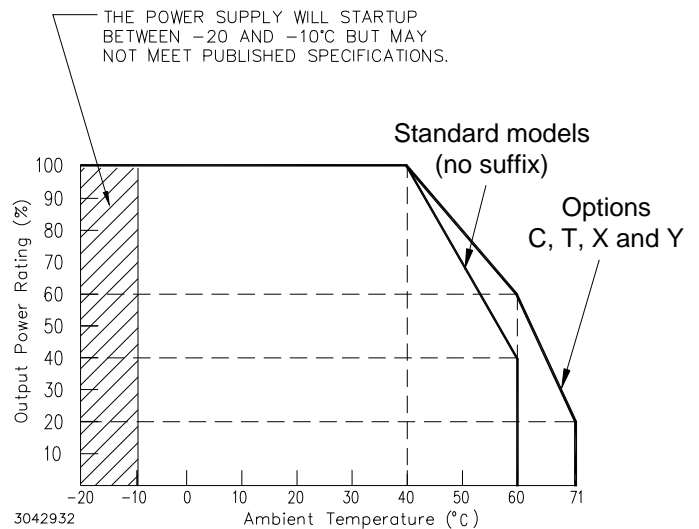

FIGURE 4. OUTPUT POWER RATING VS. AMBIENT TEMPERATURE
(1) Derates same as Output Power.
(2) Current Limit is rectangular. After the overload is removed, output is automatically restored.
(3) See power derating curve, Figure 4.
OPERATING TEMPERATURE: See Figure 4.)
- (1) Overvoltage (and overtemperature on 24V model) shuts down the output. Recover by recycling a-c input (approximately 30 second delay required before resetting). For overtemperature, allow unit to cool before resetting.
(2) 25°C, Nominal. Input.
(3) Hiccup mode operation. After the cause of overcurrent is removed, output voltage recovers automatically.
(4) See power rating curve, Figure 4. Exceeding maximum power rating may result in oscillation or a drop in output current or voltage.
- (5) Ripple and noise will be approximately 1.5 times higher in the operating temperature range -10 to 0°C.
(6) Sense resistor on C and Y Models are used for current monitoring. See "Current Monitor." on page 2 for details.
OPERATING TEMPERATURE: See Figure 4.